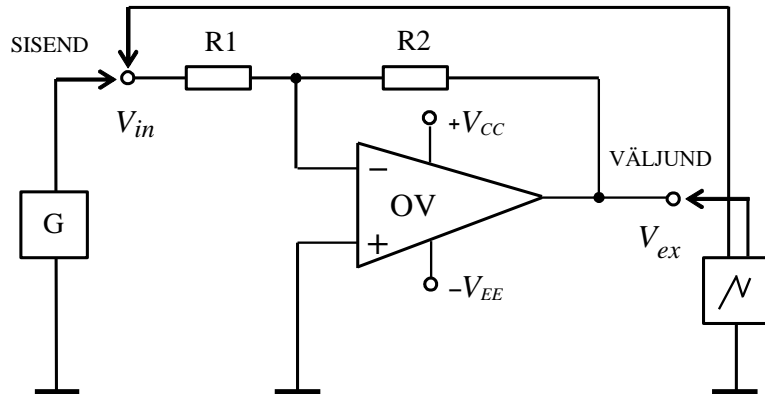

Fig. 1 Schematic of the inverting OA.
1.1. Compose the inverting operational amplifier (OA) circuit according to the schematic in Fig.1.